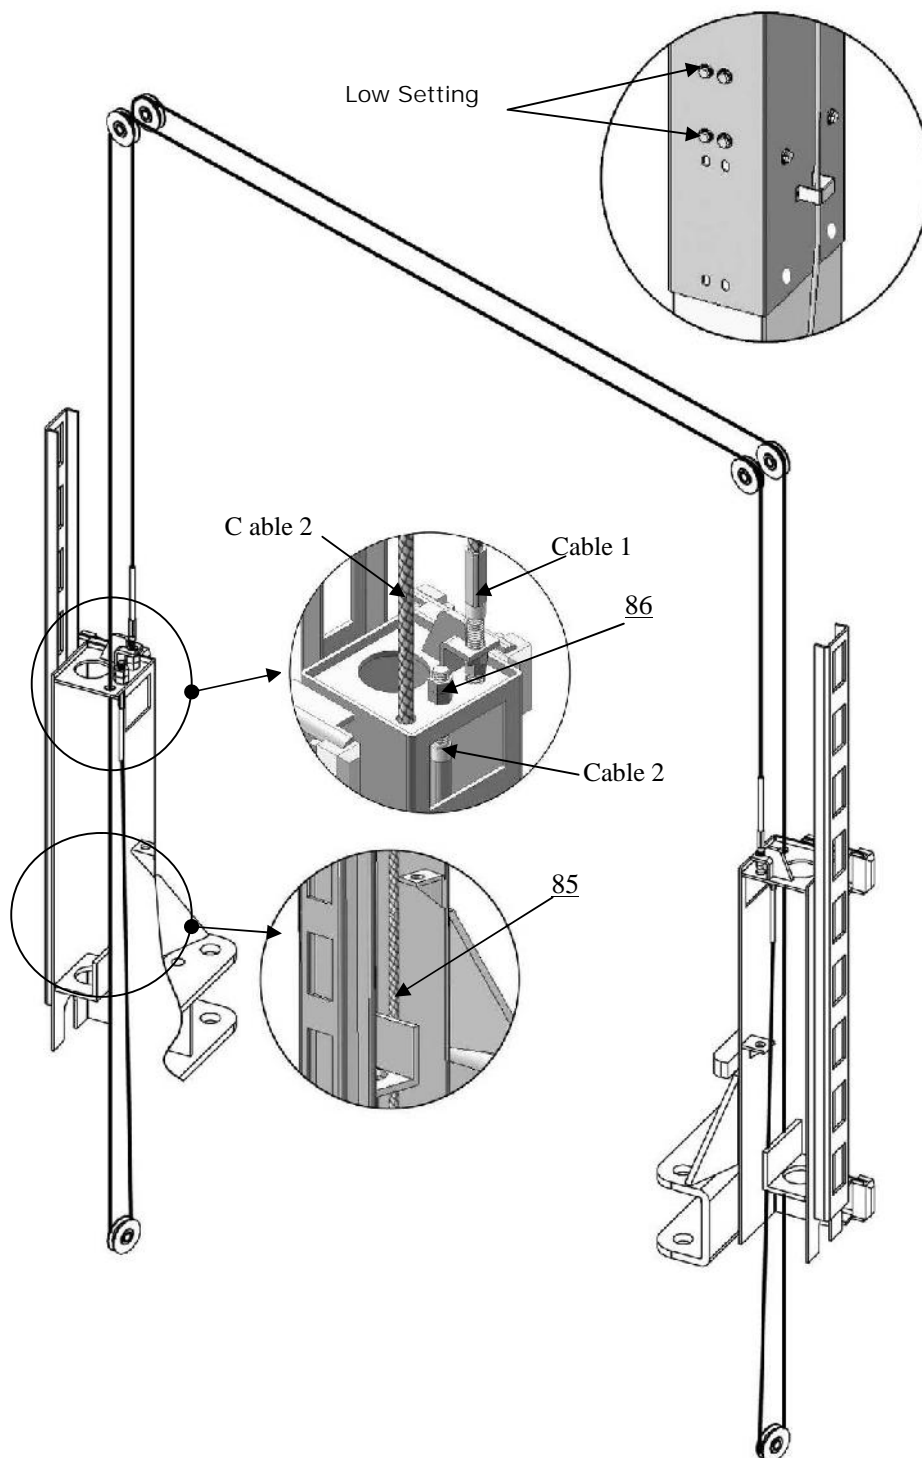

Fig. 22
a. For the low setting cable connection (See Fig. 22).